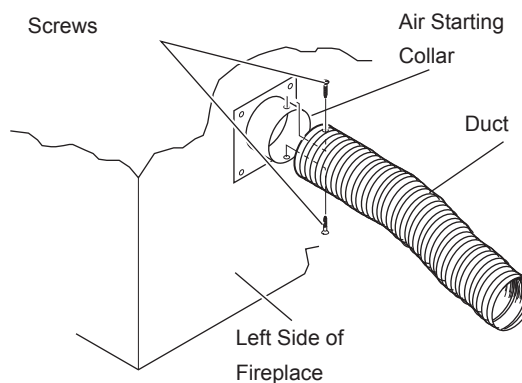

Figure 19 - Attaching Outside Duct to Starting Collar
4. Attach outside duct to starting collar with duct clamp or screws. *Figure 19*
6. Select and cut a piece of duct long enough to attach to the fireplace and stick out at least 3" beyond the face of the wall to which the AK-4 inlet air vent will be attached. *Figure 19*